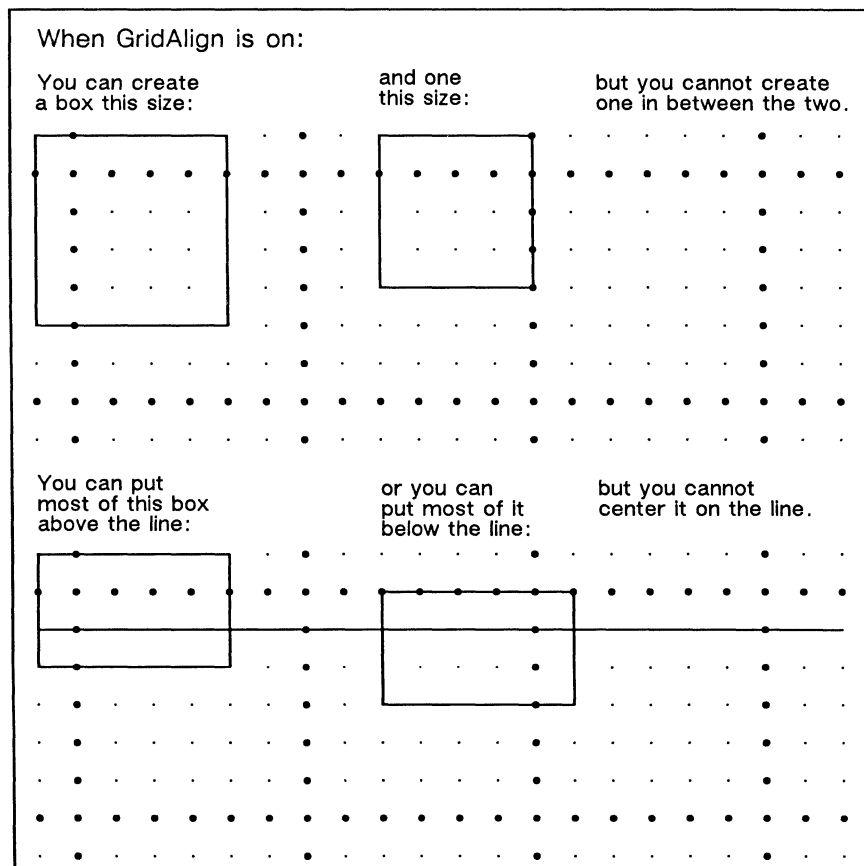

Figure 19-20. GridAlign restrictions on the size and move commands
**GridAlign** forces objects to align themselves to the grid when you are moving or sizing them. When **GridAlign** is *on*, you can move objects only in such a way that their control points line up with the grid, and you can size objects only in minor grid unit increments. Figure 19-20 shows restrictions on size and on movement.